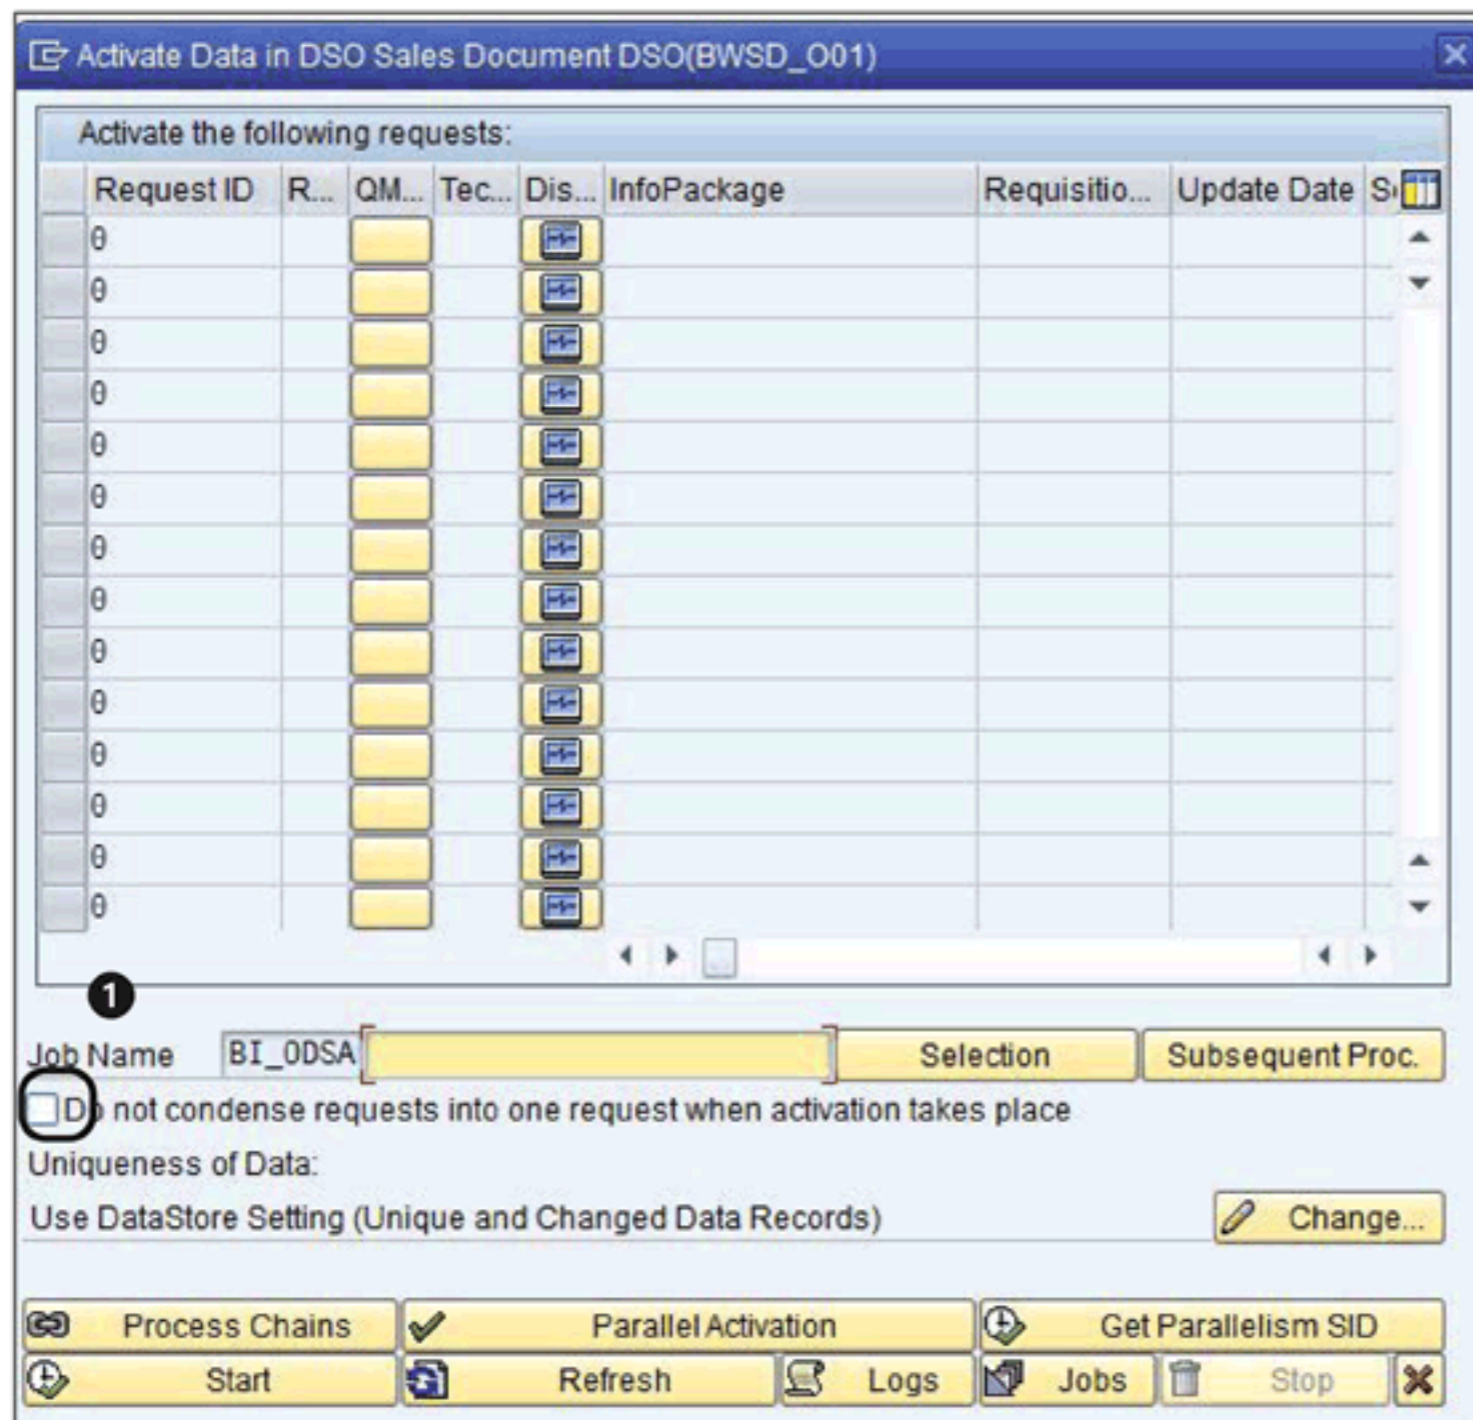

Figure 14.8 Condensing Option for Activation of Multiple Requests
You also have the option to activate multiple requests in one job (❶ of Figure 14.8). To do this, make sure the DO NOT CONDENSE REQUESTS INTO ONE REQUEST WHEN ACTIVATION TAKES PLACE checkbox is deselected. This causes the system to compress multiple requests into one.
When multiple requests are combined into one change log request, their individual request identifier (a separate request ID) is removed, and they appear as one request in the change log table. This necessitates that you must delete all of the requests from the DSO that were condensed and activated as one in order to delete a single request from the DSO. Check the flag (❶ of Figure 14.8) if you require deletion of a single request from the DSO.